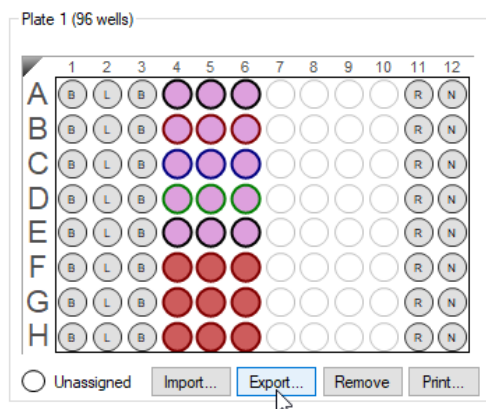

Figure 9-19: Sample Plate Map— Export Button
1. In the Sample Plate Definition window (see Figure 9-19: on page 368), click **Import**.